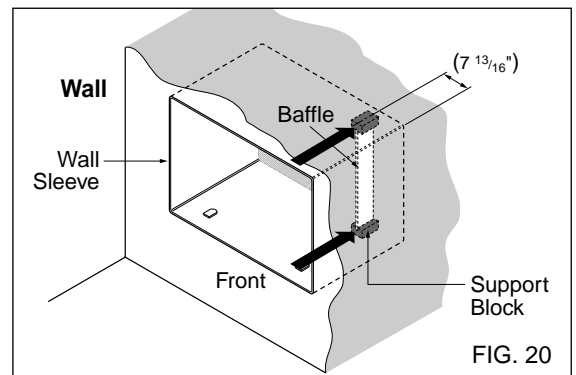

FIG. 20
- 6** Remove the backing from the support blocks and attach them to the inside of the wall sleeve as shown FIG 20. Slide the baffle into slots of the support blocks